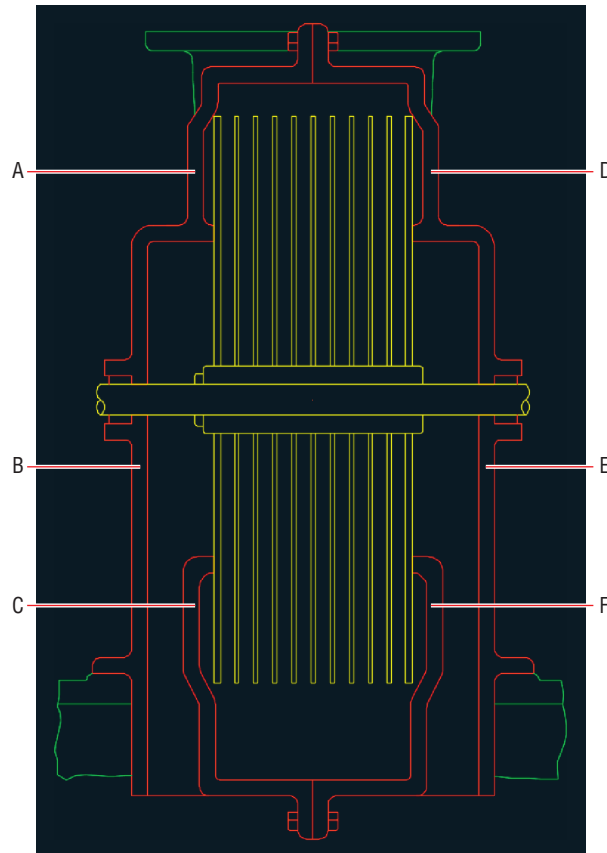

FIGURE 8.13 Picking points inside the metal housing to determine hatch boundaries
4. Click points A through F inside the red housing, as shown in Figure 8.13. A hatch appears within the red boundaries.